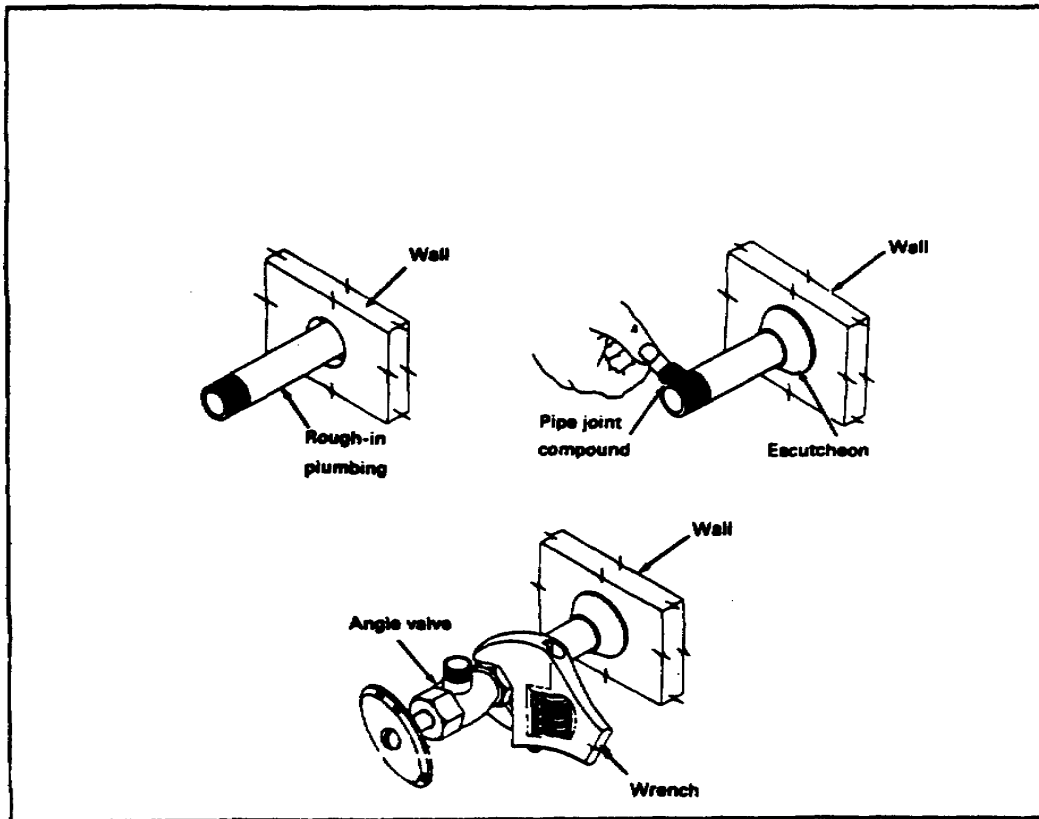

FIGURE 12. INSTALLING SHUT OFF ANGLE VALVE, STEEL PIPE
**Installing shutoff angle valves to steel pipe.** Use the following steps to install angle valve on threaded galvanized pipe (see Figure 12):